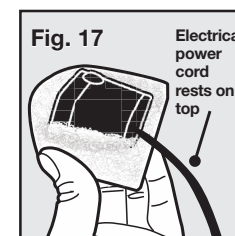
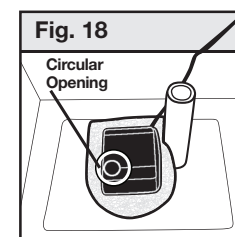

Fig. 17
Fig. 18
- Place the foam filter around the pump (Fig. 17). Take the bowl and place pump inside the square indentation. With the bowl positioned so the raised post is at the top right corner of the square, make sure the pump is positioned so that the circular opening on the top of the pump is positioned in the bottom left corner of the square (Fig. 18).